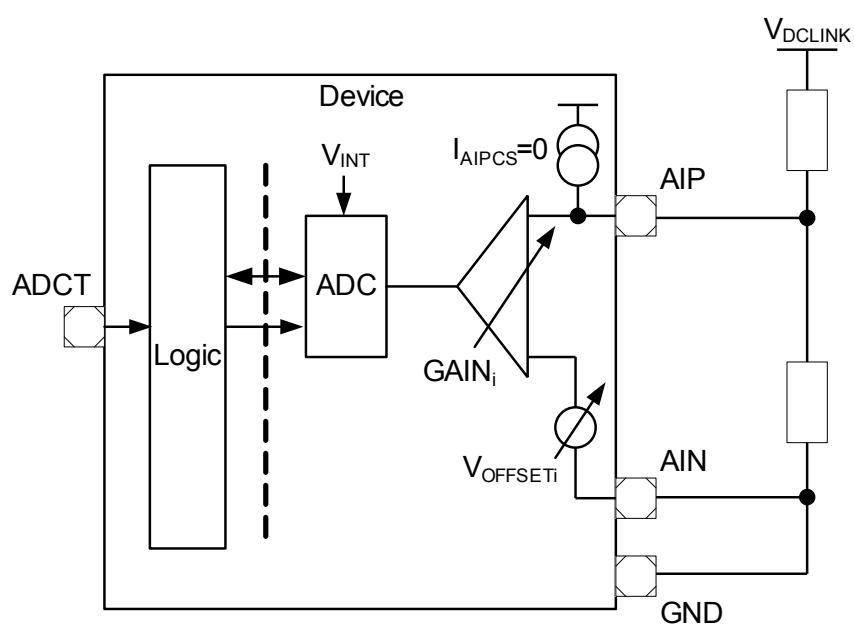

Figure 2-20 Application Example:  $V_{DCLINK}$  Measurement
- Measurement of the high voltage DC-Link or phase voltage (Figure 2-20).